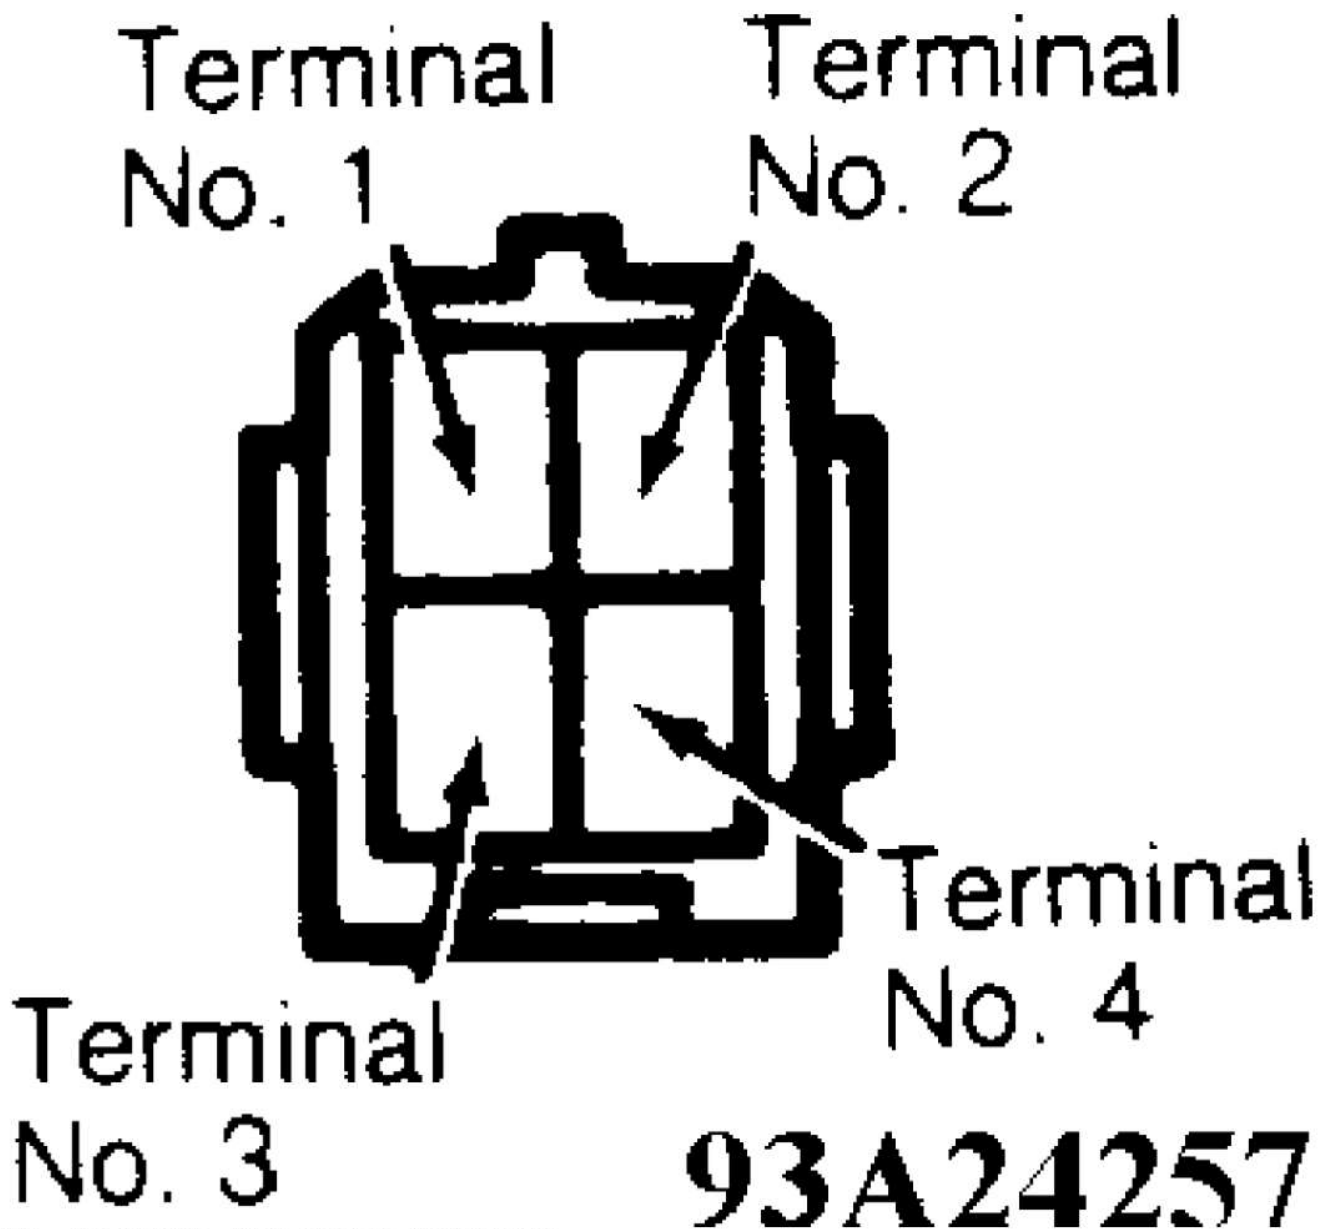

Fig. 30: Overdrive (OD) Switch Terminals
1) Disconnect electrical connector from OD switch, located on shift lever. Note terminal identification on OD switch. See Fig. 30.